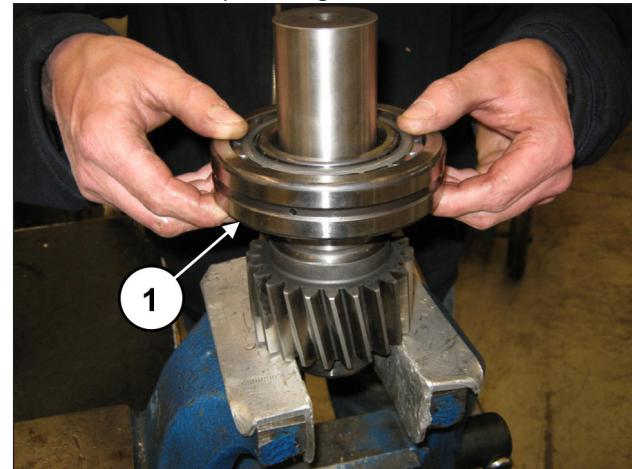
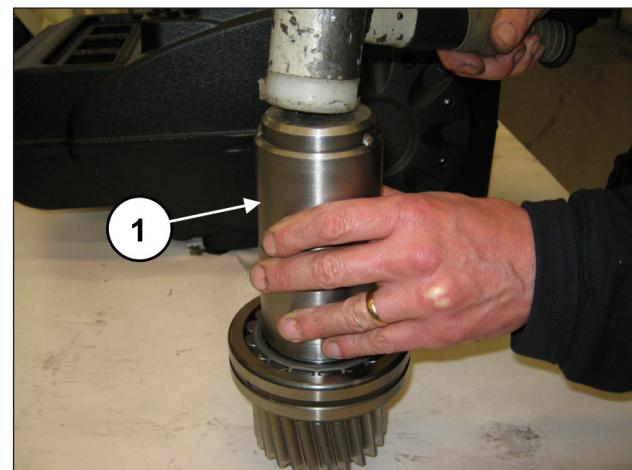

Fig. 83
Fig. 84
From the other side of the pinion, pre-assemble the bearing 55x120x29 (pos. ①, Fig. 83) positioning it to end stroke using tool code 27604800 (pos. ①, Fig. 84).